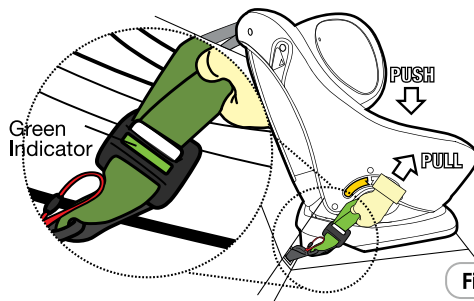

Figure 3
**Step 3:** Push down on the restraint (with knee or hand). Remove all slack from the LAC straps by pulling the adjuster strap firmly. The **GREEN** indication is activated (refer Figure 3 & 4).